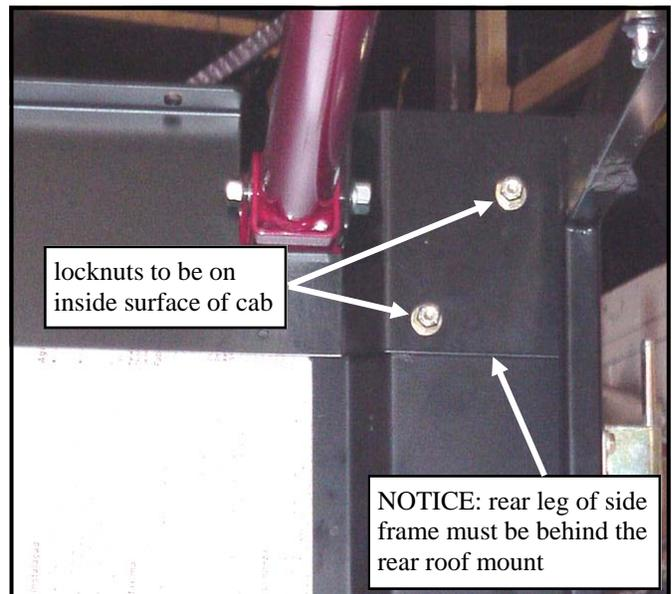

Fig. 5.2
5.2 Bolt the rear leg of the side frame to the rear roof mount two places as shown in Fig. 5.2. Use 3/4" long carriage bolts.